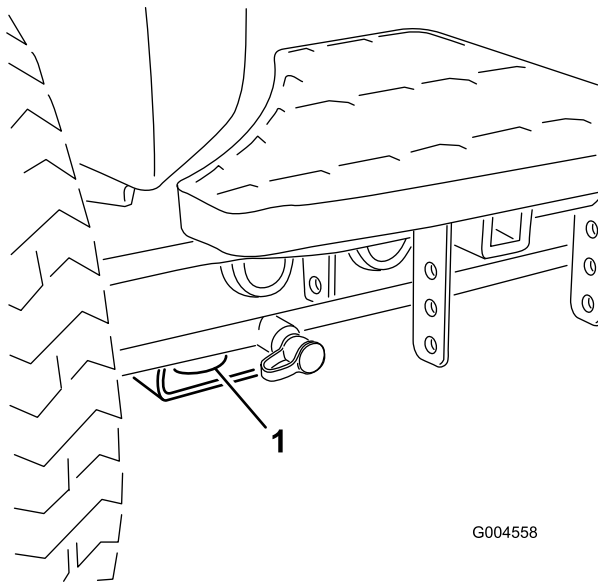

Figure 39
- Front—the hole in the rectangular pad, under the axle tube, inside each front tire (Figure 39).